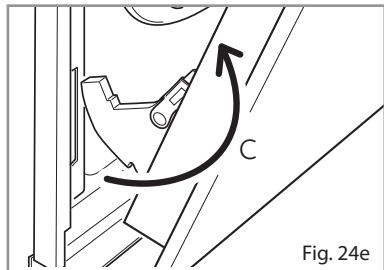

Fig. 24e
- Withdraw the hinge hooks from their location following arrow "C" (Fig. 24e).